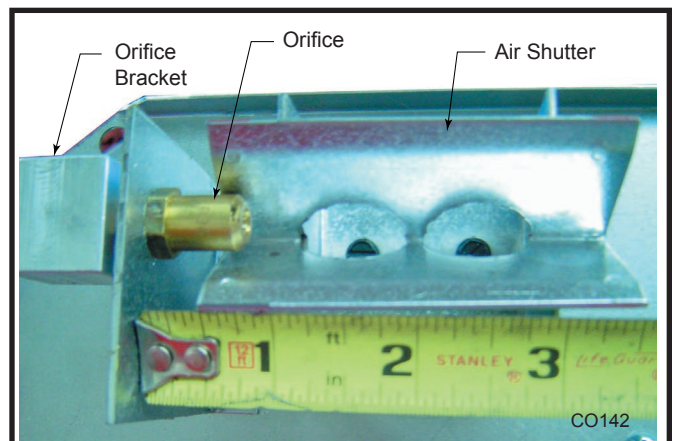

Fig. 74 The air shutter setting is 1/2" (13 mm) from the orifice bracket to the edge of the air shutter.
5. The air shutter is factory set according to table on Page 7 and should not need adjustment. The air shutter opening may be verified by measuring as shown in Figure 74.